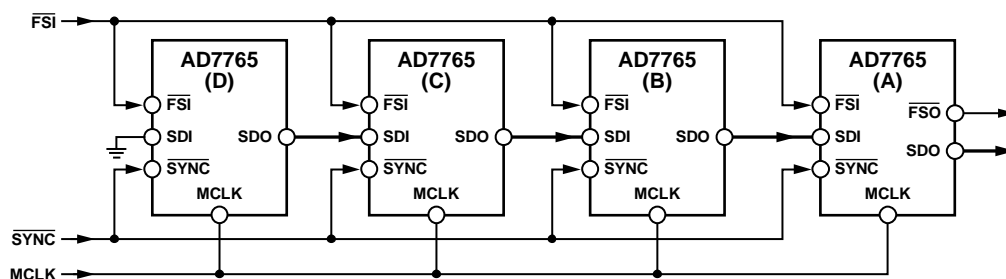

Figure 39. Daisy Chaining Four Devices in Decimate 128x Mode Using a 40 MHz MCLK Signal
The block diagram in Figure 39 shows how to connect devices to achieve daisy-chain functionality. Figure 39 shows four AD7765 devices daisy-chained together with a common MCLK signal applied.
Referring to Figure 39, note that the SDO line of AD7765 (A) provides the output data from the chain of AD7765 converters. Also, note that for the last device in the chain, AD7765 (D), the SDI pin is connected to ground. All of the devices in the chain must use common MCLK and SYNC signals.